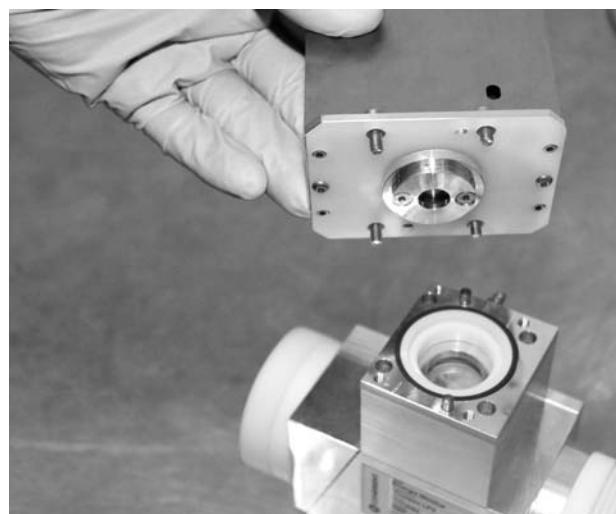

Figure 120: Refitting the energy monitor electronics box
11. Noting the respective positions of the locating pins and screws, attach the energy monitor electronics box onto the attenuator box (see Figure 120).